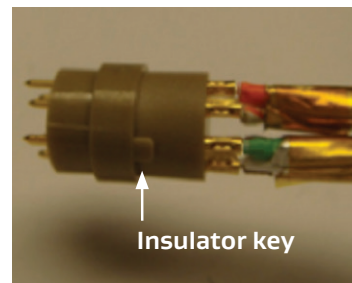
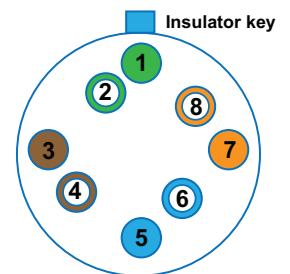

Figure 18: Inserting contacts into insulator
Figure 19: Contact positions inside insulator
12. Insert the contacts into the insulator (Figure 18). The green conductor goes into the position closest to the insulator key as shown in the diagram in Figure 19.